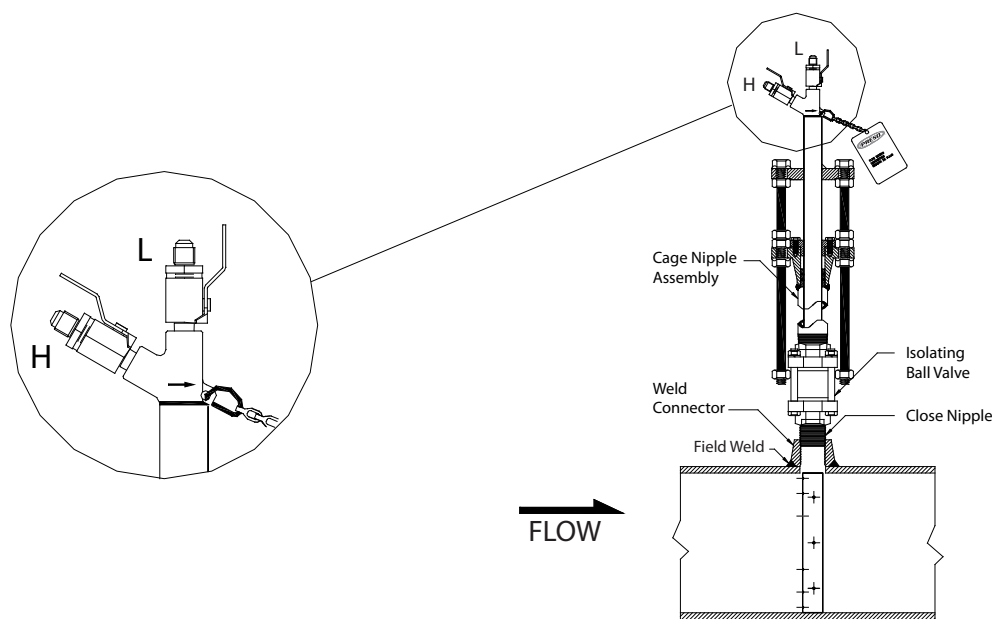

Figure 4: Sensor alignment
7. Install the cage nipple assembly and packing gland with the threaded rods assembly by threading it into the isolating ball valve. Align the arrow on the sensor head with the direction of flow. See Figure 4.